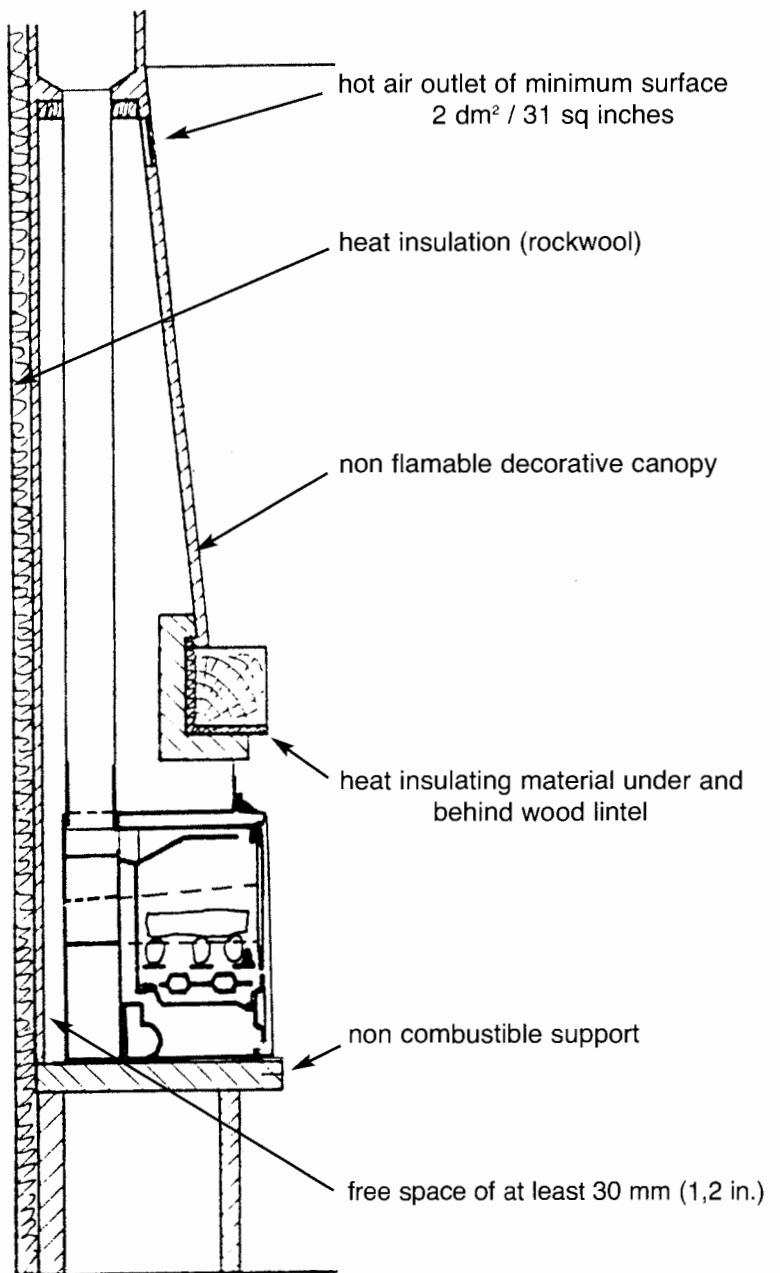

Fig. 3
**IMPORTANT :** This regulation obliges to a 30 mm (1,2 in.) free space at the back of the fireplace (Fig. 3)